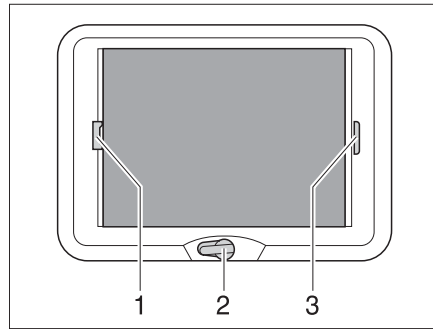

Fig. 54 Wind-up skylight
- Rotate the hand crank (Fig. 54,2) until a resistance can be felt (max. opening angle 70°).
- Pull the handle of the Roman shade (Fig. 54,3) and release in the desired position. The Roman shade will stay in that position.
- Pull insect screen at the handle (Fig. 54,1) to the opposite handle of the Roman shade (Fig. 54,3) and allow to engage.
- Press the handle of the insect screen (Fig. 54,1) at the back upwards and detach the insect screen from the Roman shade (Fig. 54,3).